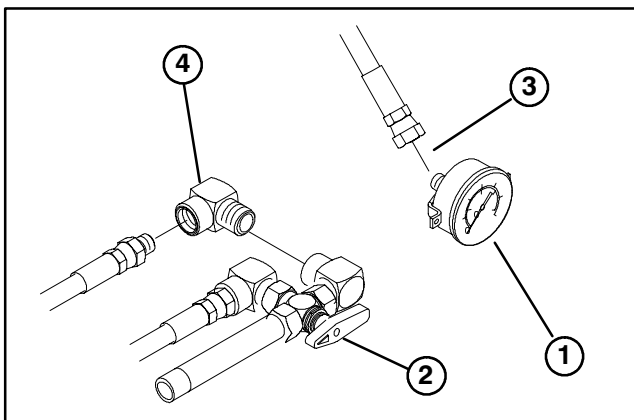

Figure 2
4. Disconnect hose and 45 degree fitting secured to 90 degree fitting, connected to right side of selector valve (Fig. 2).